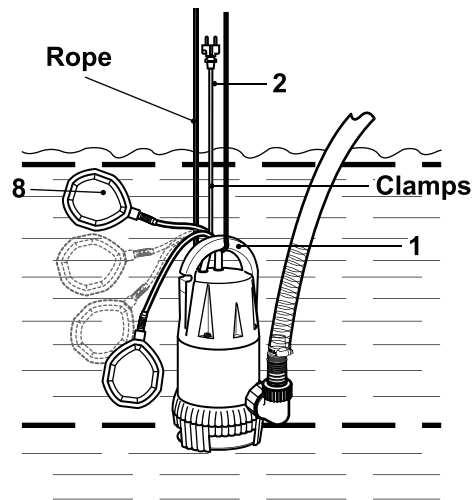

Fig. 4
> Fasten a rope (not provided) to the handle (1) and submerge the product carefully into the water reservoir (Fig. 4)
NOTE: We recommend guiding the power cord by means of clamps alongside the fastening rope (Fig. 4).